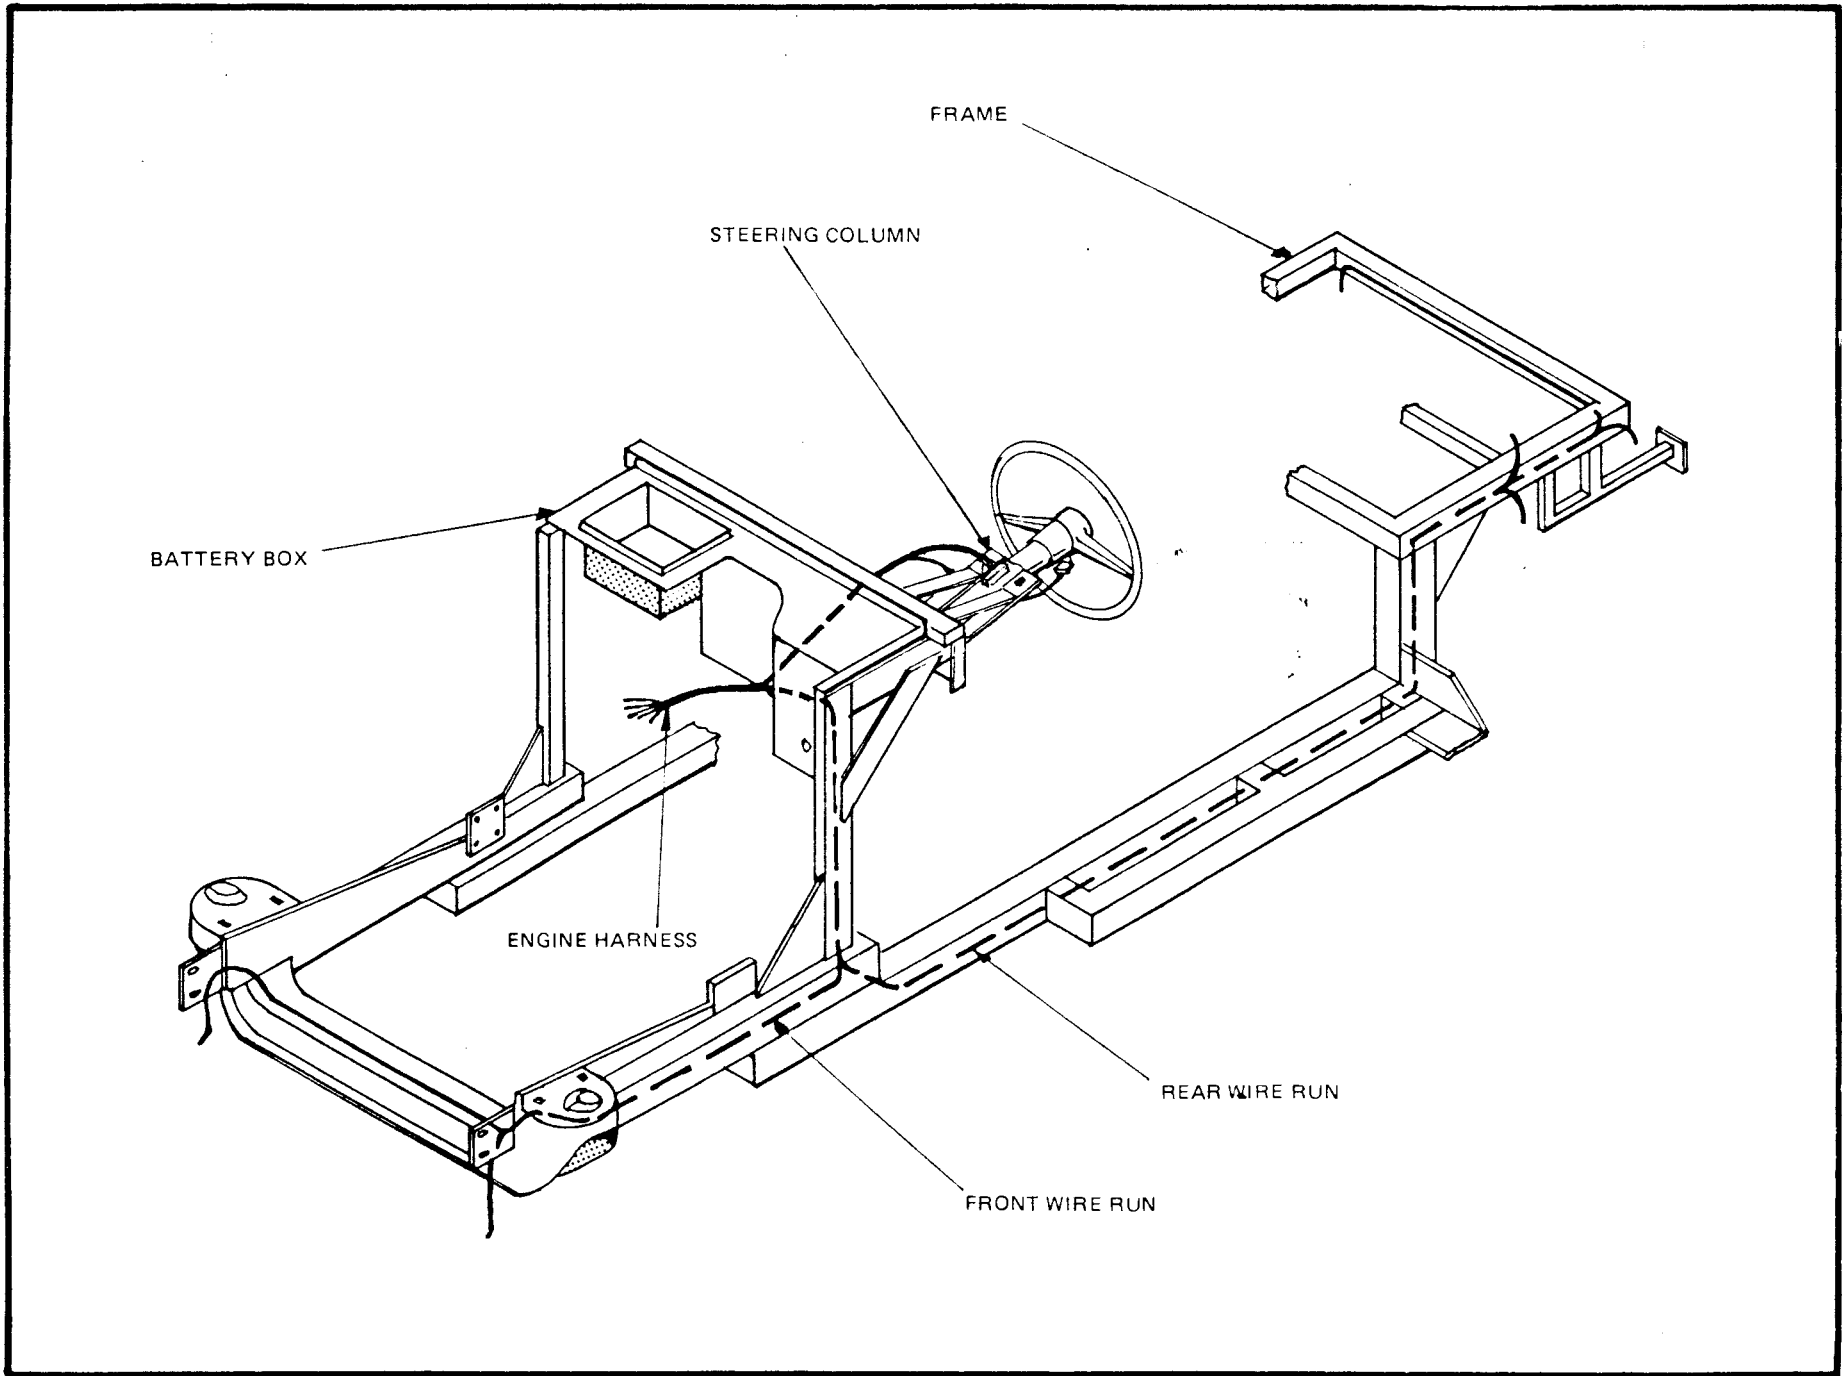

Figure 26
- The main harness is routed through the battery box. Steering column connections, and instrument harness connections are on the passenger side of the box. All engine connections are on the opposite side. On the engine side of the battery box, is the front and rear branches. These go down to the frame where they split, front and rear. A separate instrument/dash harness connects to all gauges and switches. The two harnesses are joined by the steering column. (Figure 26)